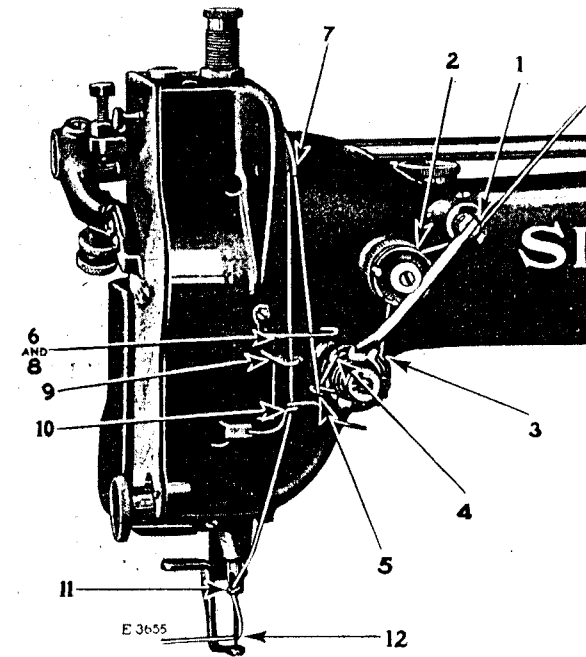
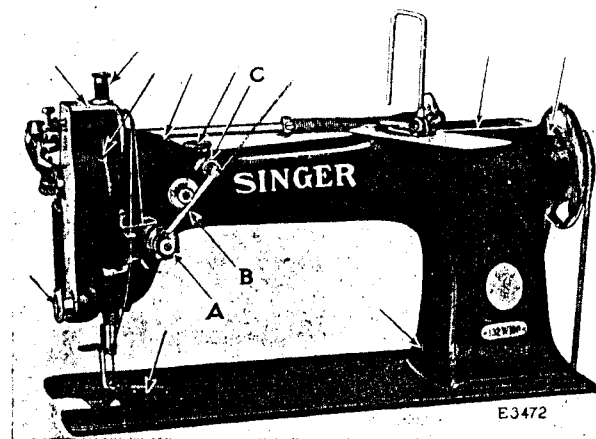

FIG. 9. THREADING THE NEEDLE
FIG. 14. OILING POINTS AT THE FRONT OF THE MACHINE
(SEE FIG. 9)
The tension on the needle thread is regulated by the thumb nut (A, Fig. 14) at the front of the tension discs at the front of the machine. To increase the tension turn the thumb nut over to the right. To decrease the tension turn the thumb nut over to the left.
The needle thread nipper (2, Fig. 9) should be adjusted to release the needle thread as the thread take-up lever (7, Fig. 9) is nearing the highest point of its upward stroke, about $\frac{3}{8}$ of an inch from the top. In case the thread nipper is not correctly timed, loosen the lock nut at the rear of the thread nipper and turn the nipper to the right or left as may be required, until the desired result is obtained, then tighten the lock nut.
The nipper releasing lever (B, Fig. 14) should be so adjusted that it will cause the nipper discs (2, Fig. 9) to be opened when the presser bar lifter is raised. When the presser bar lifter is lowered, the nipper releasing lever should close the nipper discs. To adjust
the nipper releasing lever to the correct position, loosen the set screw (C, Fig. 14) and move the stud to which the nipper releasing lever is pivoted, in or out, as may be required. When the nipper releasing lever has been correctly adjusted, firmly tighten the set screw (C).
Oil should be applied at the places designated by arrows as shown in Figs. 14, 15 and 16. Swing back the cover which is on the top of the machine, at the right, and oil the gears and bearings which are thus uncovered, then replace the cover. Remove the throat plate and apply oil to the wick which is retained in the bed of the machine, then replace the throat plate. Occasionally oil the bobbin case bearing in the bobbin case race.